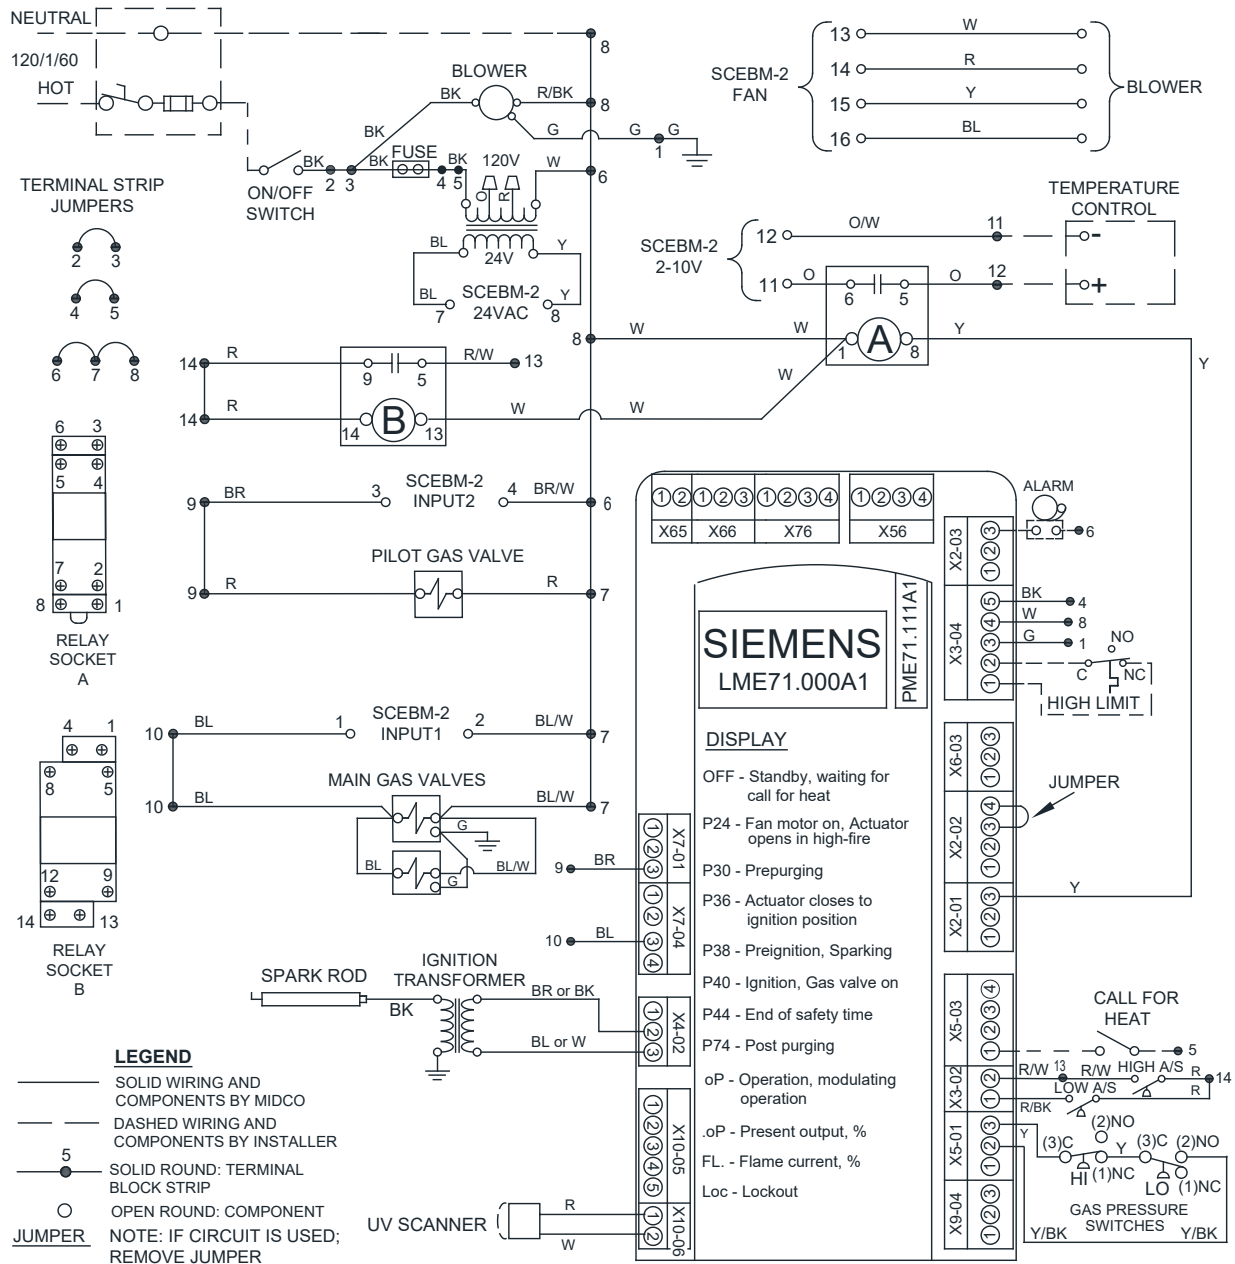

**Figure 4C: Wiring Diagram for the VA series models
for **Siemens control** - hot wire to strip terminal 3, neutral 6—and that the neutral line is not subject to induced low voltage (check 6 to 1 earth ground) (refer to Figures 4C and 4D) ...
- for **Siemens control** - 120V (On Off switch), 8 (Neutral), and 1 (Ground) (refer to Figures 4C and 4D).
- for **Siemens control** - positive 10 (+) and 9 negative (-) (refer to Figures 4C and 4D).
for **Siemens control** - 8 (Blue), 5 (Blue/White) and 1 (Green) (refer to Figures 4C and 4D).
for **Siemens control** - terminal 3 to Siemens X5-03 1 (refer to Figures 4C and 4D).